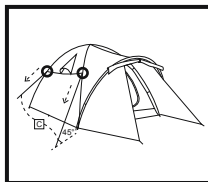

FIG5
8. Secure the outer tent<A> by pushing the tent pegs<D> into the ground loops.(FIG5)
9. Tie one end of the guy ropes<C>onto the four corner hoops of outer tent<A>.(FIG5)
10. Tie the other end onto the tent pegs<D> and fasten them by inserting the tent pegs<D> into ground.(FIG5)